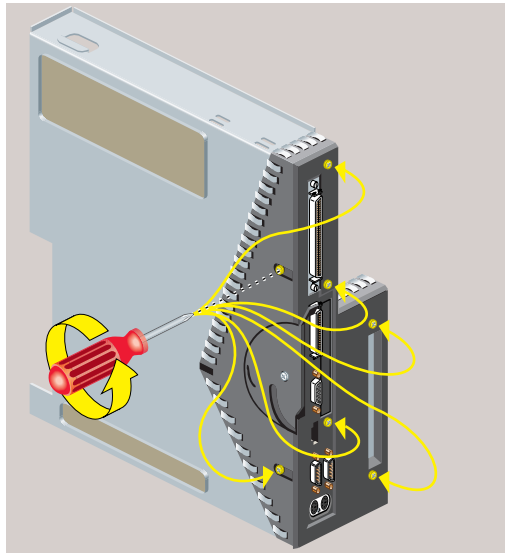

Figure 5-9 Removing Seven Screws From the Face Plate
- Use a Phillips screwdriver to remove five screws on the rear and two screws on the underside, in the locations shown (Figure 5-9).